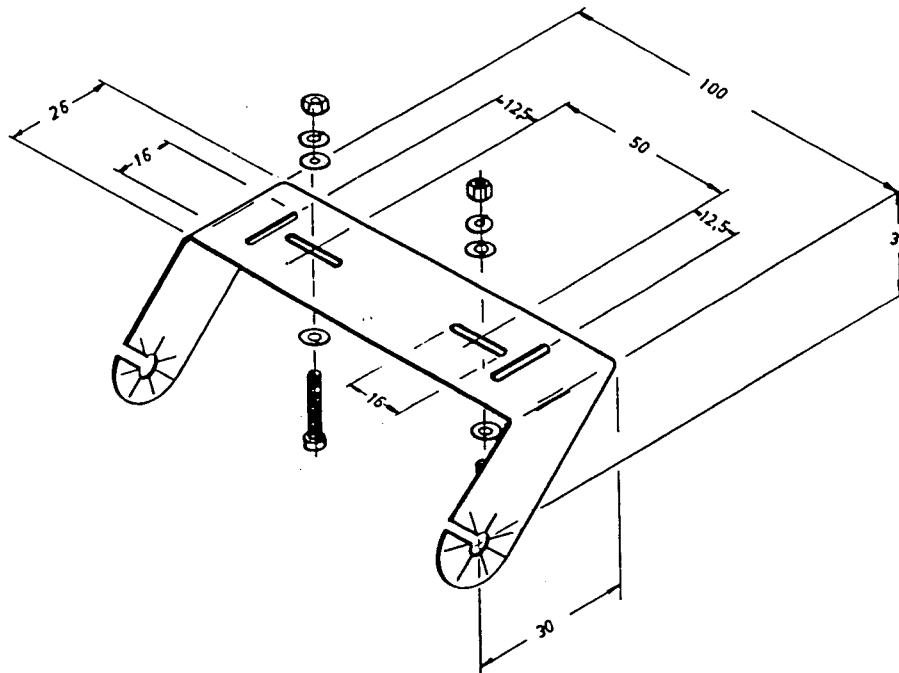

Fig. C-4 Control Unit Installation
1. Drill two 4mm holes (5/32 in. drill) in the vehicle body, noting the range of centre-to-centre dimensions shown in Fig. C-4 below.